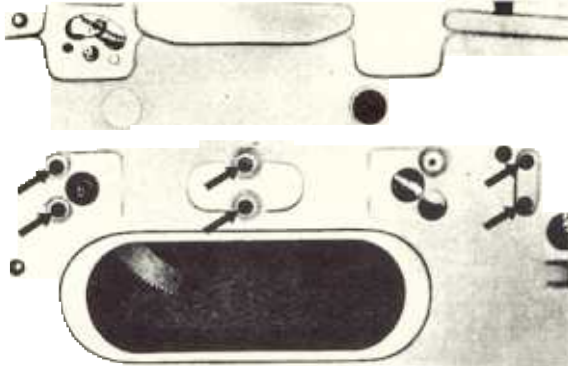

Fig. 27
5. Undo 6 fastening bolts in crank mechanism carrier and remove crank mechanism (see fig. 27).